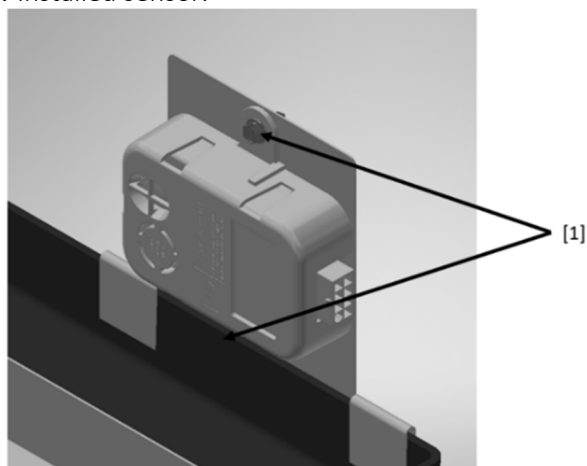

Figure 1 - Sensor Mounting
- 3) Remove installed A2L sensor from bracket by removing two screws as shown in Figure 1. (use existing screws to install new sensor)
- 4) Attach new sensor to bracket using two existing screws. See Figure 1